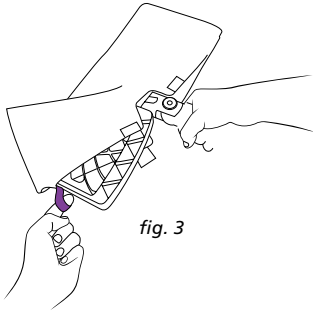

fig. 3
Use with the accessory hose to clean a variety of surfaces such as counter tops, walls, mirrors, and windows. (Fig. 3)
- 3 Use the lavender loop on the side of the cleaning pad to slide the mop head into the pad pocket. Then secure the quick fasteners on the top of the pocket to lock in place. **(fig. 3)**